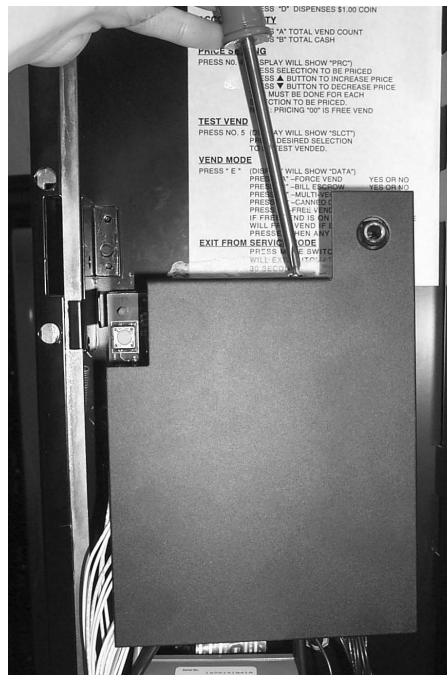

Figure 7.
9. The last connection to be made will be the DEX connection. This cable is mounted on the front cover. The other end of this cable will plug into J5 of the control board. After you plug this cable in, you may mount the cover. Line the hole on the top of the cover with the hole on the bracket above the control board. Using the 08-0832-00 screw included in the kit, screw the cover in place. Refer to Figure 7 for cover’s orientation. Make sure all the cables are neatly dressed out and oriented in a downward direction so that the cover can be mounted.